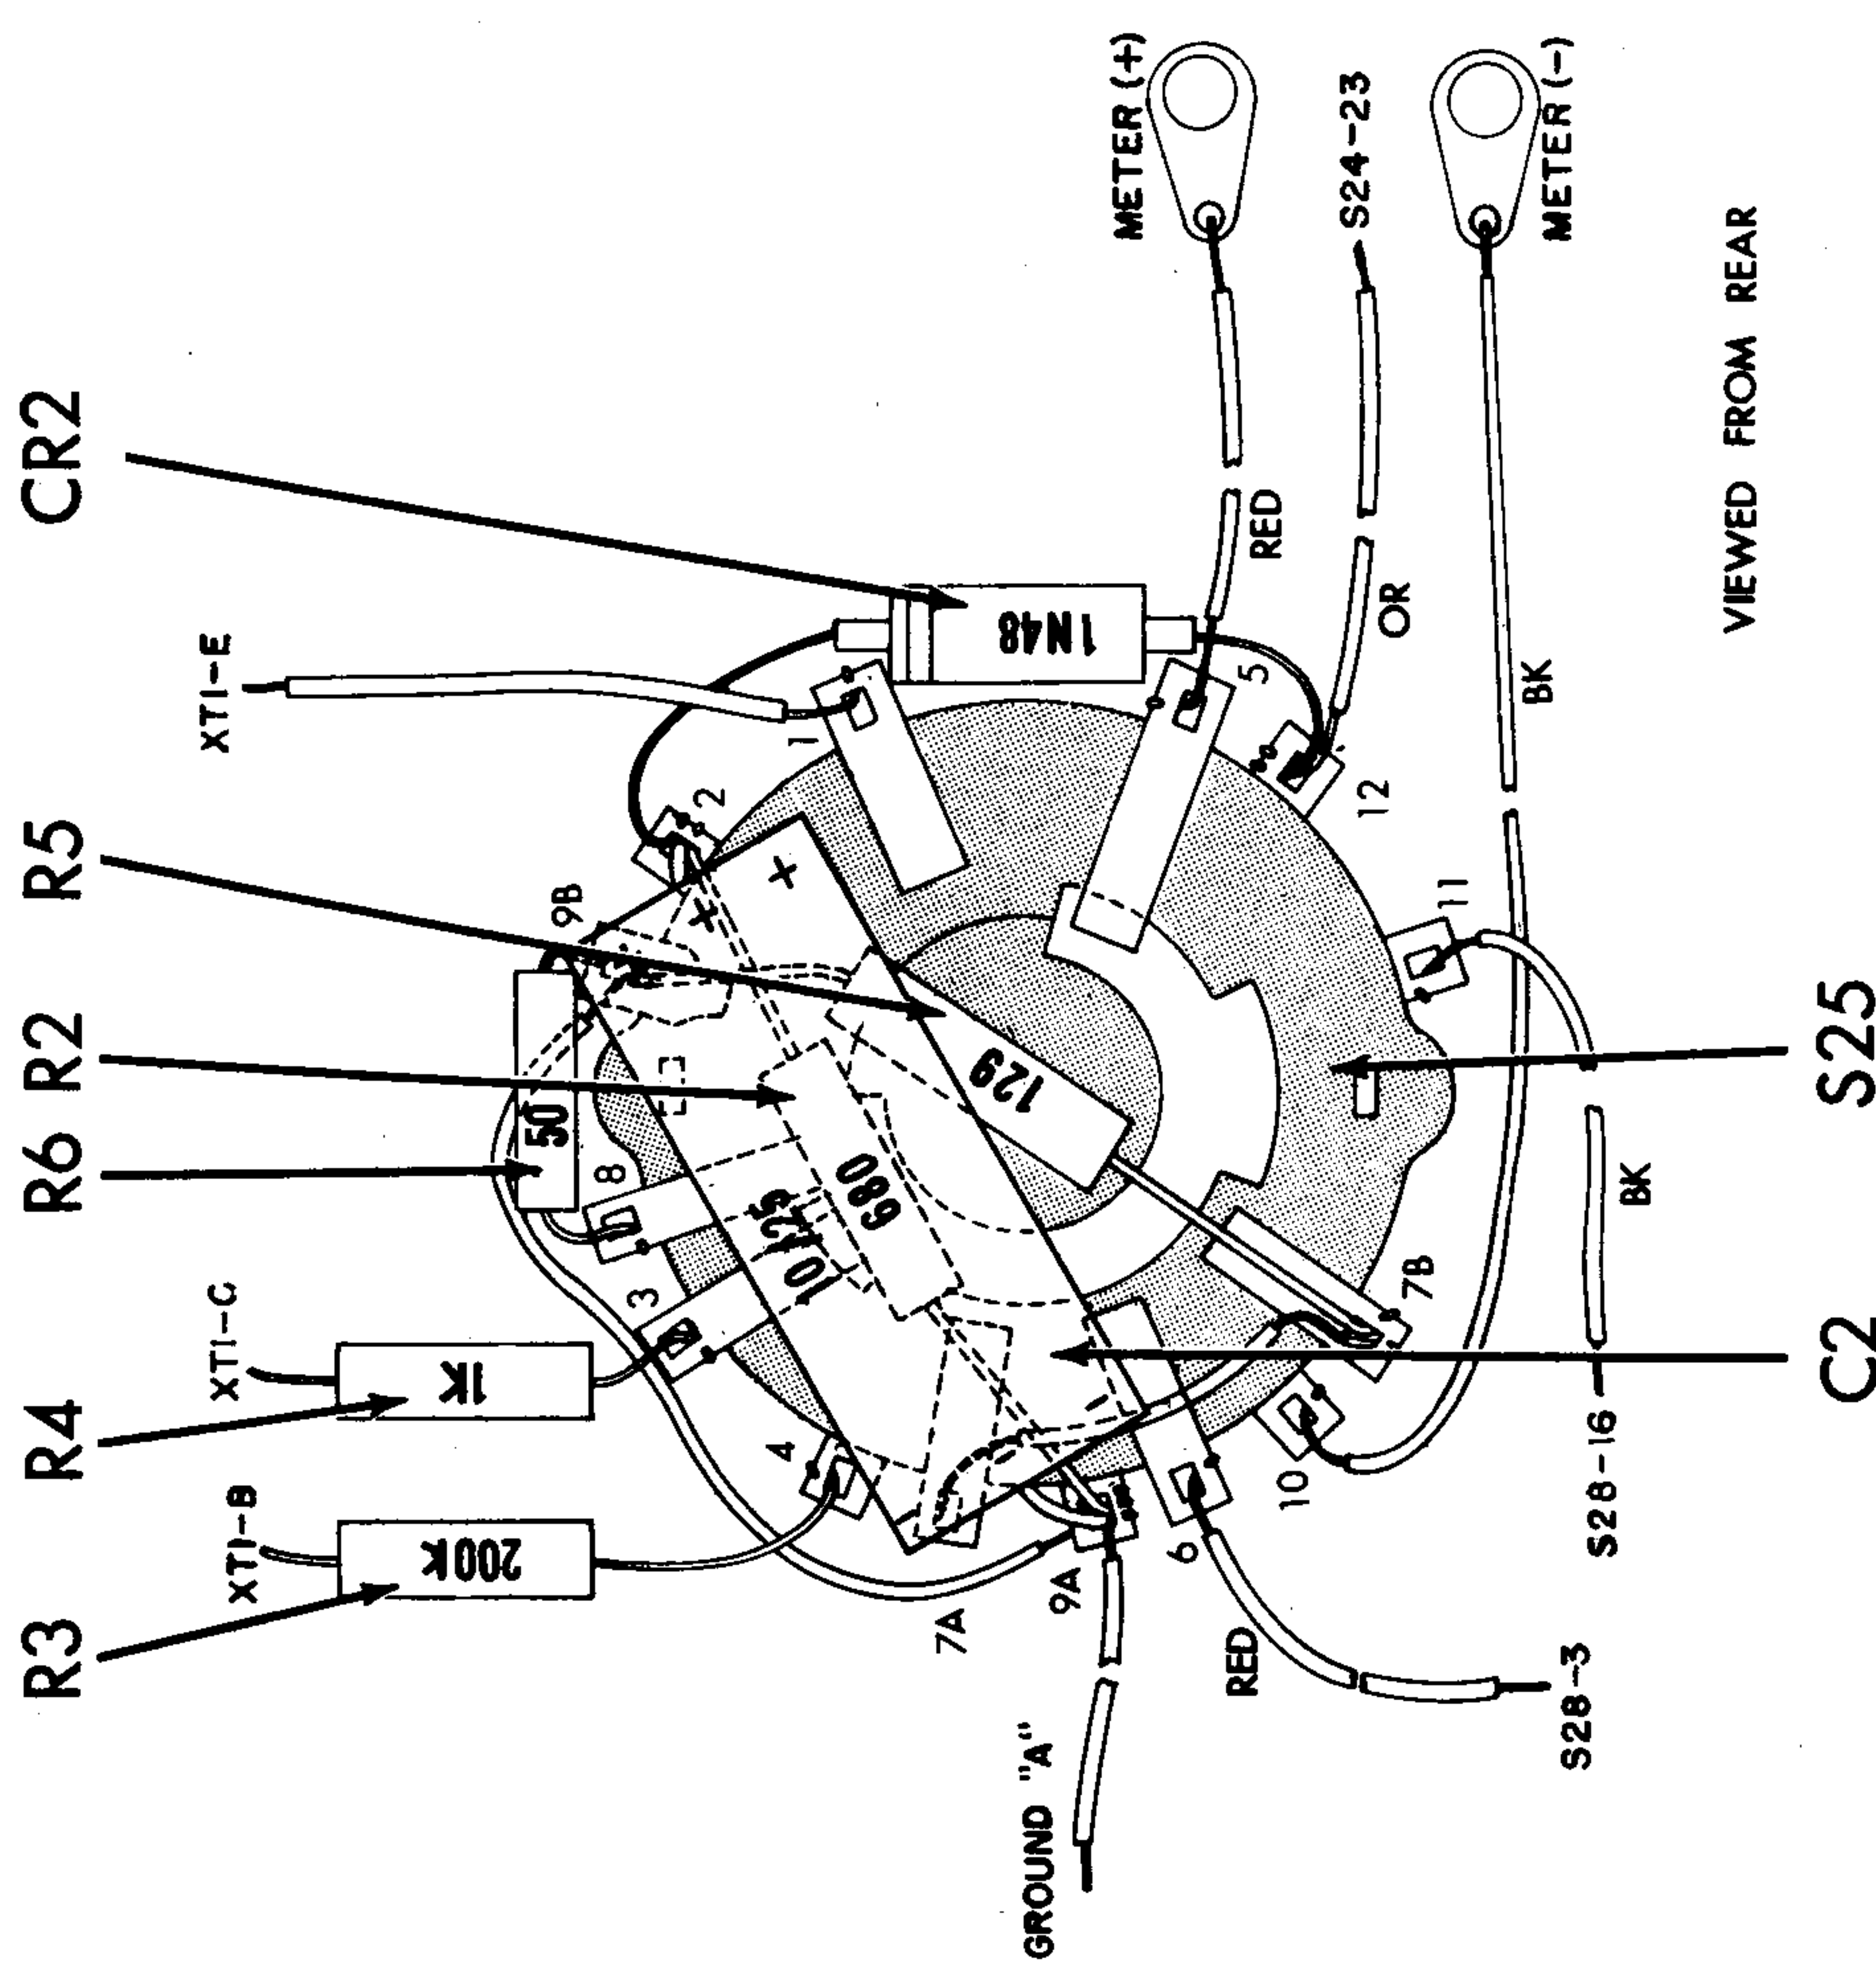

Fig. 7
- (✓) 1. Fig. 7. Connect a short length of bare wire, covered with spaghetti, from S25-7A (S) to S25-7B (C).
- (✓) 2. Fig. 7. Connect the 129 ohm resistor, R5, from S25-7B (S) to 25-9B (C).
- (✓) 3. Fig. 7. Connect a short length of bare wire, covered with spaghetti, from S25-9A (C) to S25-9B (C).
- (✓) 4. Fig. 7. Connect the 50 ohm resistor, R6, from S25-8 (S) to S25-9B (S).
- (✓) 5. Fig. 7. Connect the 680 ohm resistor, R2, from S25-9A (C) to S25-2 (C).
- (✓) 6. Fig. 7. Connect the cathode end (identified by a stripe or similar mark) of the 1N48 diode, CR2, to S25-2 (C). Connect the unmarked end to S25-12 (C).
- (✓) 7. Fig. 7. Connect the POSITIVE (+) end of the 10mfd/25 volt capacitor, C2, to S25-2 (S). When soldering this connection, it is advisable to protect the 1N48 diode from overheating. This may be done by holding the lead of the 1N48 going to S25-2 with a pair of pliers, or by fastening an alligator clip or similar device to the lead in order to dissipate as much heat as possible. Use a fairly hot iron, well finned, and solder as quickly as possible. Connect the other end of C2 to S25-9A (C).
- (✓) 8. Fig. 7. Connect one end of a 3" bare lead to S25-9A (S). Leave the other end free.
- (✓) 9. Fig. 7. Connect one end of the 1K resistor, R4, to S25-3 (S) so that 1/2" of lead extends between the resistor and the terminal. Leave the other end free.
- (✓) 10. Fig. 7. Connect one end of the 200K resistor, R3, to S25-4 (S) so that 1" of lead extends between the resistor and the terminal. Leave the other end free.
- (✓) 11. Fig. 7. Connect one end of a 2" bare wire to S25-1 (S). Leave the other end free.
- (✓) 12. Fig. 7. Connect one end of an 11" orange lead to S25-12 (S). A gain, use an alligator clip or similar device between the 1N48 and S25-12. Leave the other end of the orange lead free.
(✓) 13. Fig. 7. Connect one end of a 6" black lead to S25-11 (S). Leave the other end free.
(✓) 14. Fig. 7. Connect one end of a 5" red lead to S25-6 (S). Leave the other end free.
(✓) 15. Fig. 7. Connect and solder a meter mounting lug (packed in the meter box) to one end of a 7" red lead. Connect the other end of the lead to S25-5 (S).
(✓) 16. Fig. 7. Connect and solder the second meter mounting lug to one end of an 8" black lead. Connect the other end of the lead to S25-10 (S).